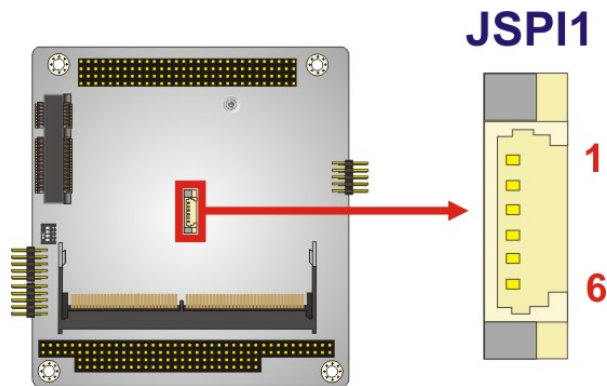

Figure 3-21: SPI Flash Connector Location
- CN Location:** See **Figure 3-21**